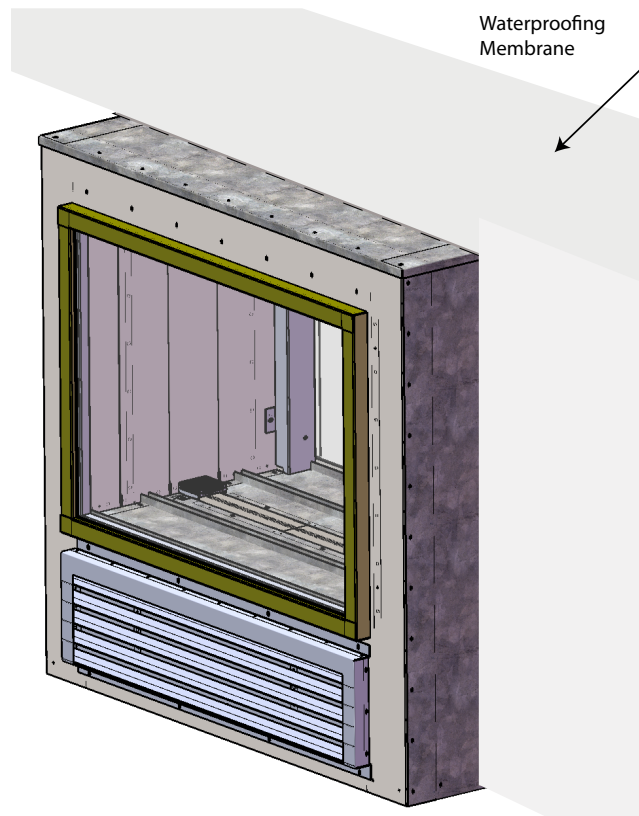

Figure 4b: Cover the flashing with the approved waterproofing membrane for the building
STEP 5: Cover the flashing with approved waterproofing membrane brought to the 1/2" edge of the unit (See Fig. 4b).
STEP 3: Install non-combustible facing material such as cement board or tile on the front inside face of the unit. (See Fig 4b)